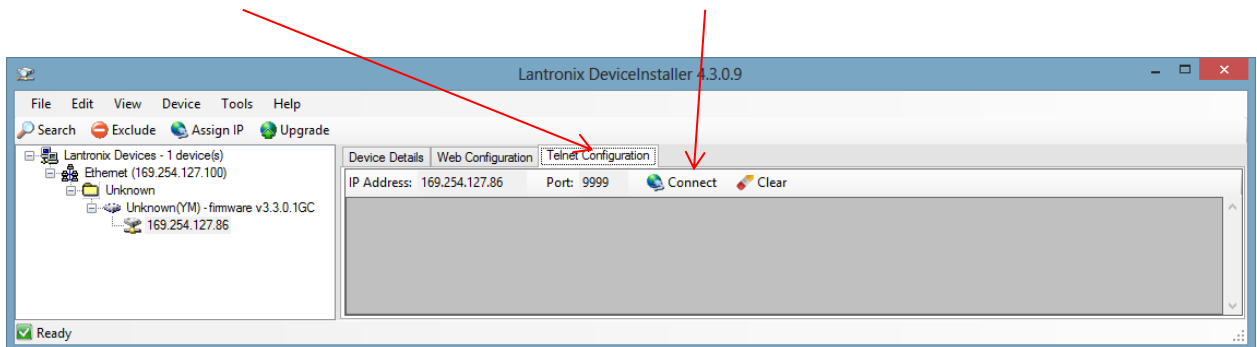

Fig 6.2.1
6.2 In Fig 6.2.1. Click “Telnet Configuration” tab, then click “Connect”.